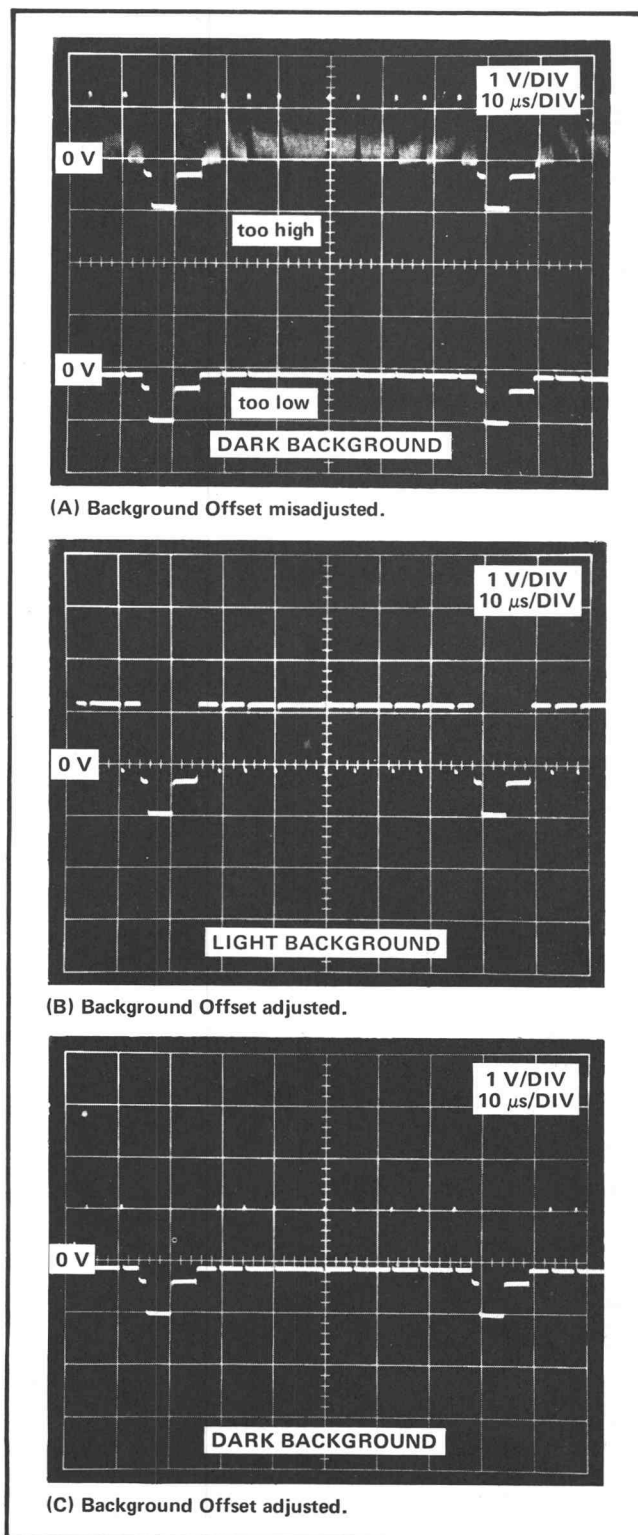

Fig. 5-28. Effect of Background Offset adjustment (R746) on waveforms at TP838.
d. Switch oscilloscope to $10\ \mu\text{s}/\text{div}$. Fig. 5-28 illustrates the video signal at this point. R746 (Background Offset) can be trimmed up to optimize video clipping. Improper adjustment will cause severe video clipping as illustrated as shown in Fig. 5-28A. Fig. 5-28A is a double-exposure showing the effect of both too low and too high a setting of the Background Offset control with DARK background selected. Fig. 5-28B and 5-28C show waveforms resulting with correct Background Offset adjustment.